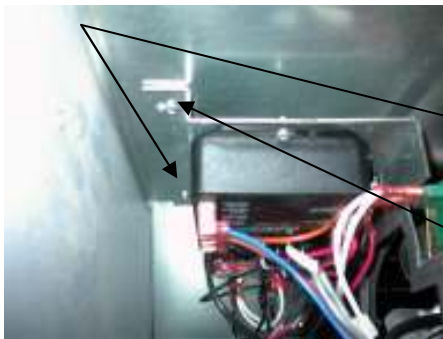

Figure 3.4
6. Take out the two screws that secure the top of the electrical bracket located in the front of the mechanical area (see figure 3.4).
16. Take out the two screws that secure the top of the electrical bracket located in the front of the mechanical area (see figure 3.4).